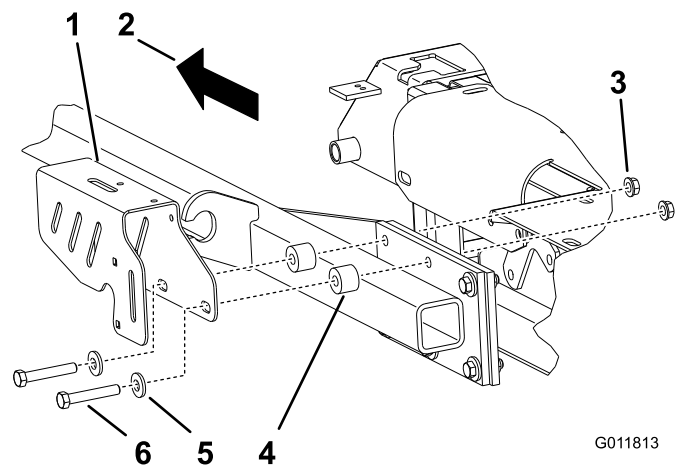

Figure 10
9. Install left hand pump bracket with 2 spacers between the carrier frame and bracket using the nuts previously removed and 2 new bolts (3/8 x 2-1/4 inches) and 2 new curved washers (3/8 inch) (Figure 10).